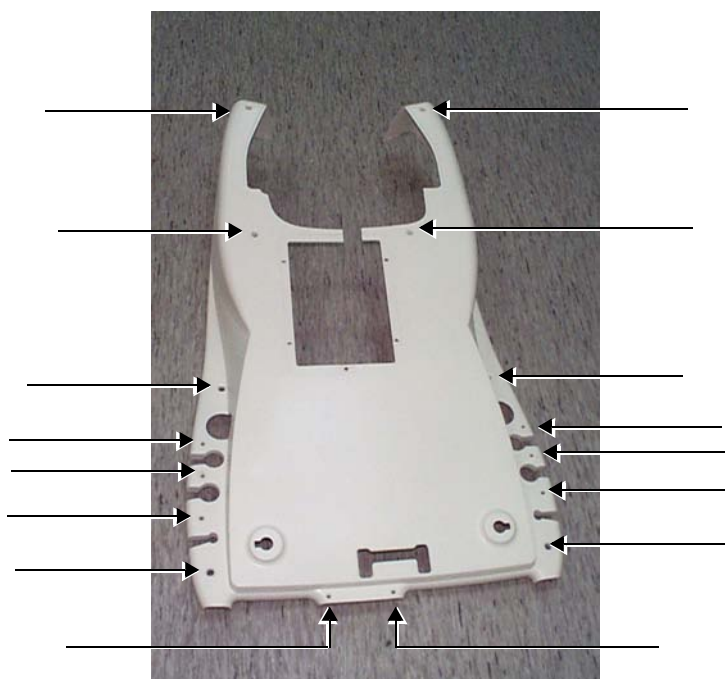

Figure 8-17 Location of Screws on the Control Console Lower Cover
- 4) Remove the 16 screws (7 from each side and 2 from the front) that fasten the lower cover in place, as shown in Figure 8-17 below.